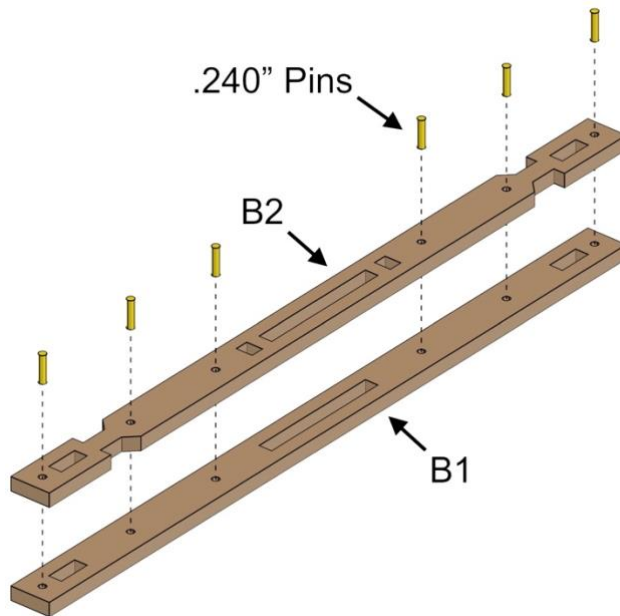

Fig. 3
- Align parts exactly as shown in *Fig. 3*.